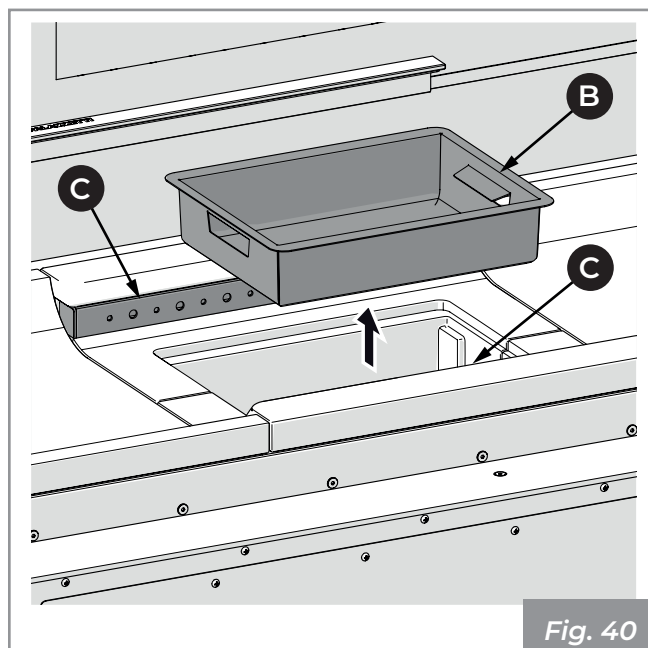

Fig. 40
- 2) Extract the ash drawer (B) from the base and vacuum out any ash deposited in the compartments below (Fig. 40).
- 3) Vacuum the front and rear holes (C) of the combustion air distributor in order to avoid any accumulation of ash (Fig. 40).